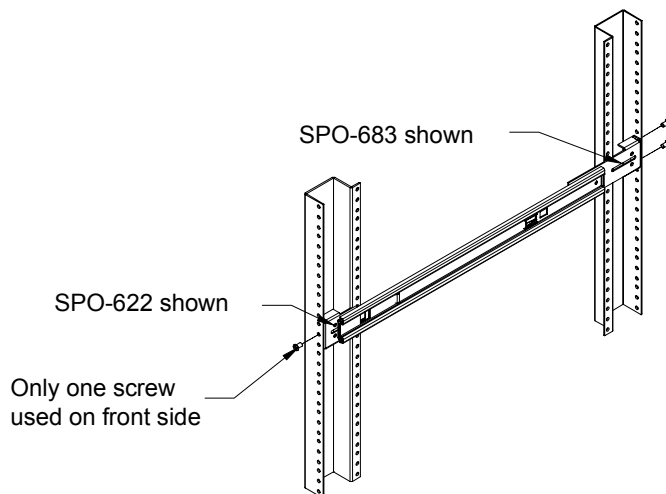

Figure 8 Mounting Cabinet Section Into Rack
- (4) Bar nuts (SPO-623 sold separately)
- (6) #10 × 0.375 flat head countersunk Phillips SST screw (not supplied by Jonathan). Two for each side. See Figure 8.